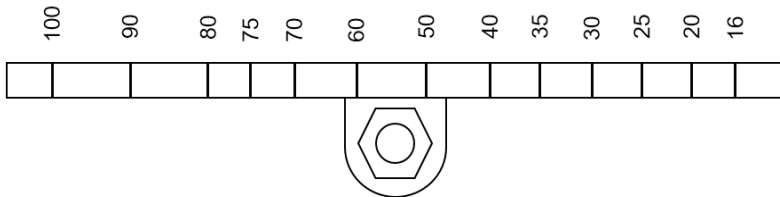

Fig. 29 AEL7 Stroke Arm (8 kN+)
- Loosen the Stroke Slider lock nut (10mm A/F) and carefully move the slider to the required stroke as indicated on the arm (Fig. 29)